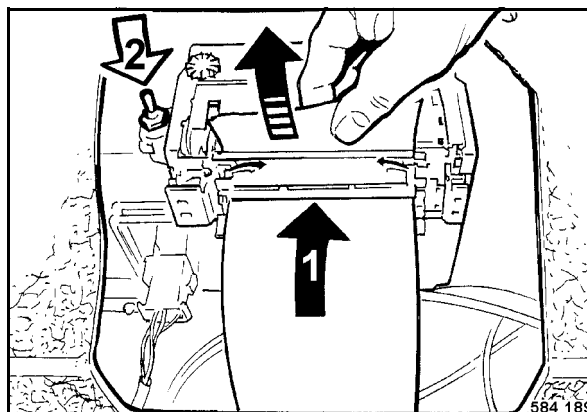

Fig. 104
- Insert a new paper roll (Fig. 104).
- Feed the paper into the guide (1) on the printer.
- Actuate the toggle switch (2) in direction of arrow, until the paper comes out of the printer.